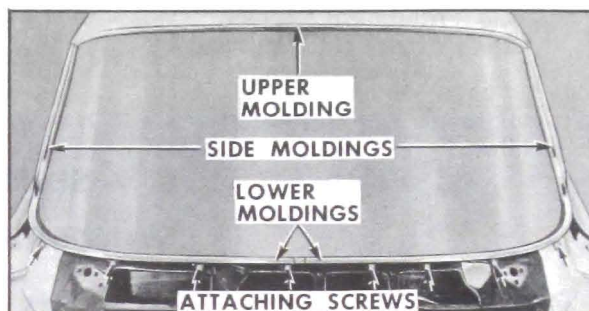

Figure 1-3—Windshield Reveal Moldings
5. Remove lower reveal molding attaching screws (Figure 1-3) and remove the molding.